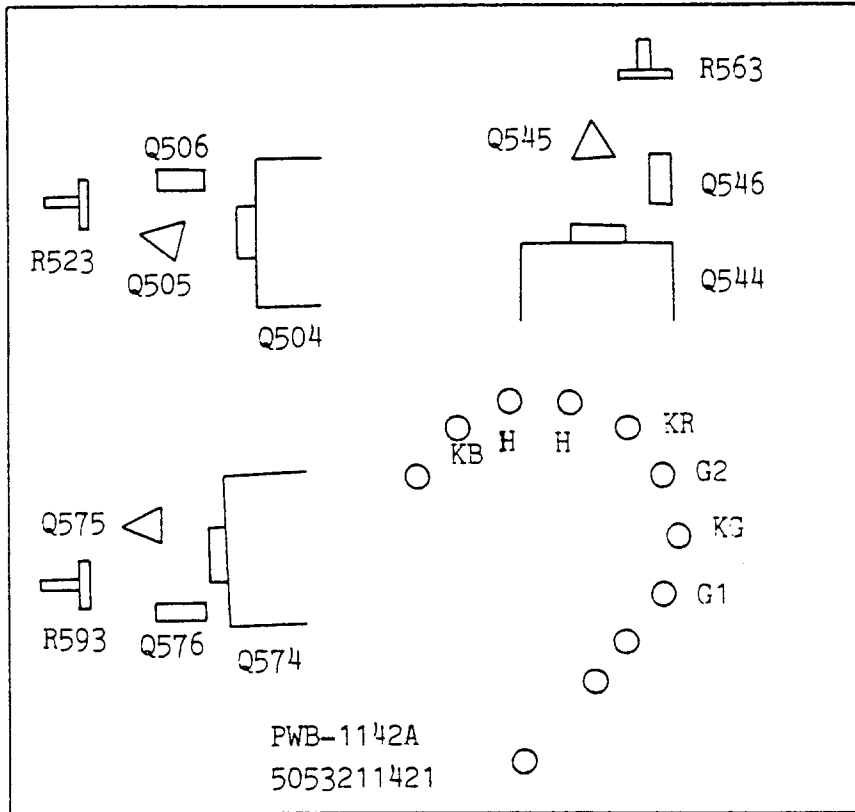

Fig 4-6
2. PCB-DRIVE adjustment and test location. (See Fig 4-6)